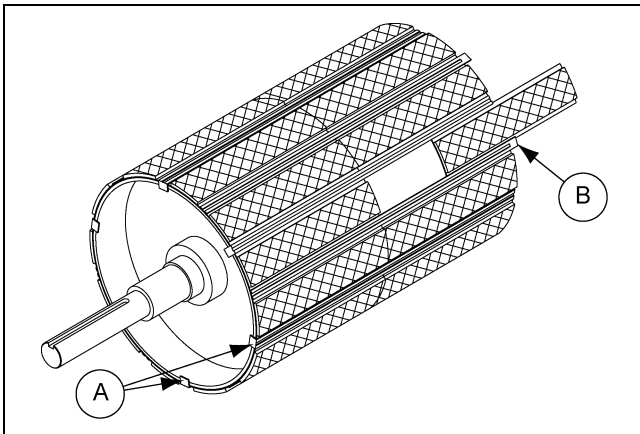
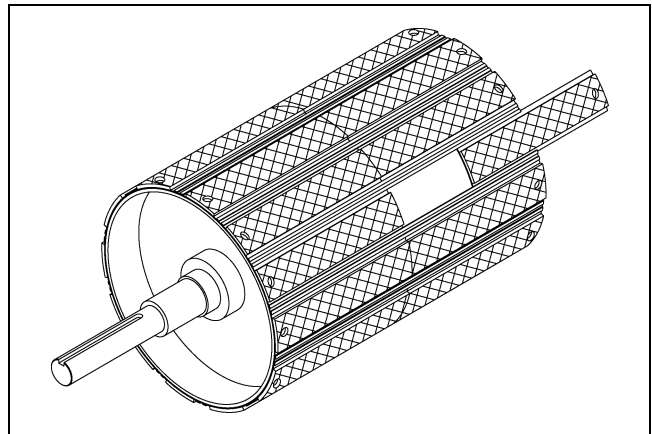

Figure 6A Head Pulley with Tabbed Retainers
Figure 6B Head Pulley Bolted Lagging
The lagging acts as a barrier between the belt and the pulley to soften the interaction and extend belt life. It is possible to remove the lagging from the head pulley, and should be replaced before it wears down to the top of the retainer or the bottom of the grooves. Replacement can be done in two (2) ways. The first way is to remove the pulley from the conveyor assembly. On certain models, there are side doors on the head assembly to allow access to the pulley. To remove the lagging, bend the tabs on the side of the pulley up and then slide the lagging out from under the retainers. (See Figure 6A.) On some pulleys, the lagging is bolted to the pulley. (See Figure 6B.)